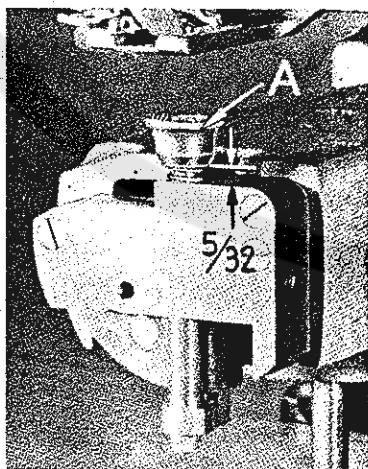
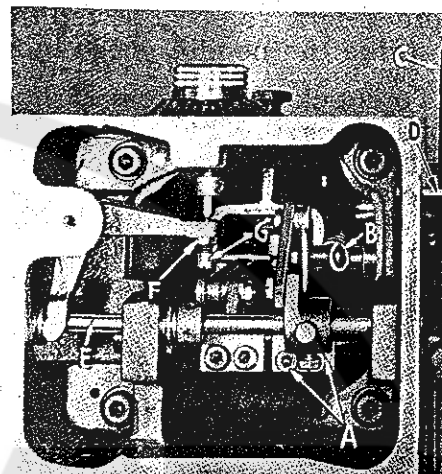
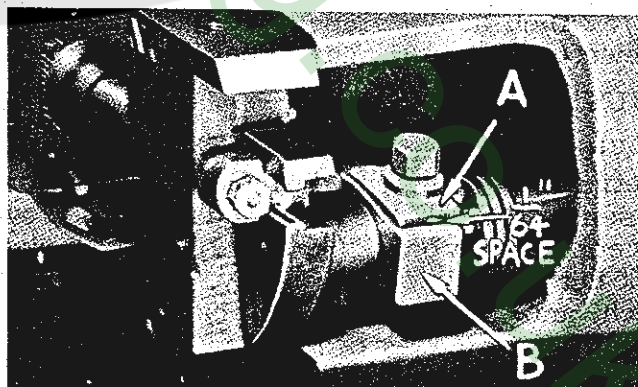
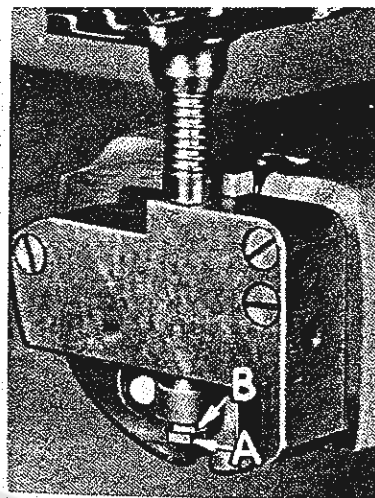

Fig. 9
Fig. 8
Fig. 10
Fig. 11
The distance the work clamp opens for insertion of work is set at the factory and usually does not have to be adjusted. Should it become necessary to do so, the proper setting may be obtained as follows: Tip machine on its side and loosen clamp screws (A, Fig. 8). Disengage spring (B) from crank roll. Depress lever (C) until it rests against its stop pin (D). Turn plunger
shaft (E) clockwise until bottom of work clamp (A, Fig. 9) is  $\frac{5}{32}$  inch above plunger bearing block. Tighten clamp screws (A, Fig. 8) and re-engage spring (B).
With machine in stop position, tilt machine on side, pull penetration dial out, and turn clockwise as far as it will go. Loosen locknut (F, Fig. 8), and adjust screw (G) until space between plunger block (A, Fig. 10) and crank (B) is  $\frac{1}{64}$  inch. Lock nut (F, Fig. 8) securely. Tip machine back, engage clutch, and turn pulley in operating direction until point of looper is over center of needle. Loosen locknut (A, Fig. 11) and adjust plunger up or down by means of nut (B) until point of looper just contacts needle. Lock nut (A) securely.